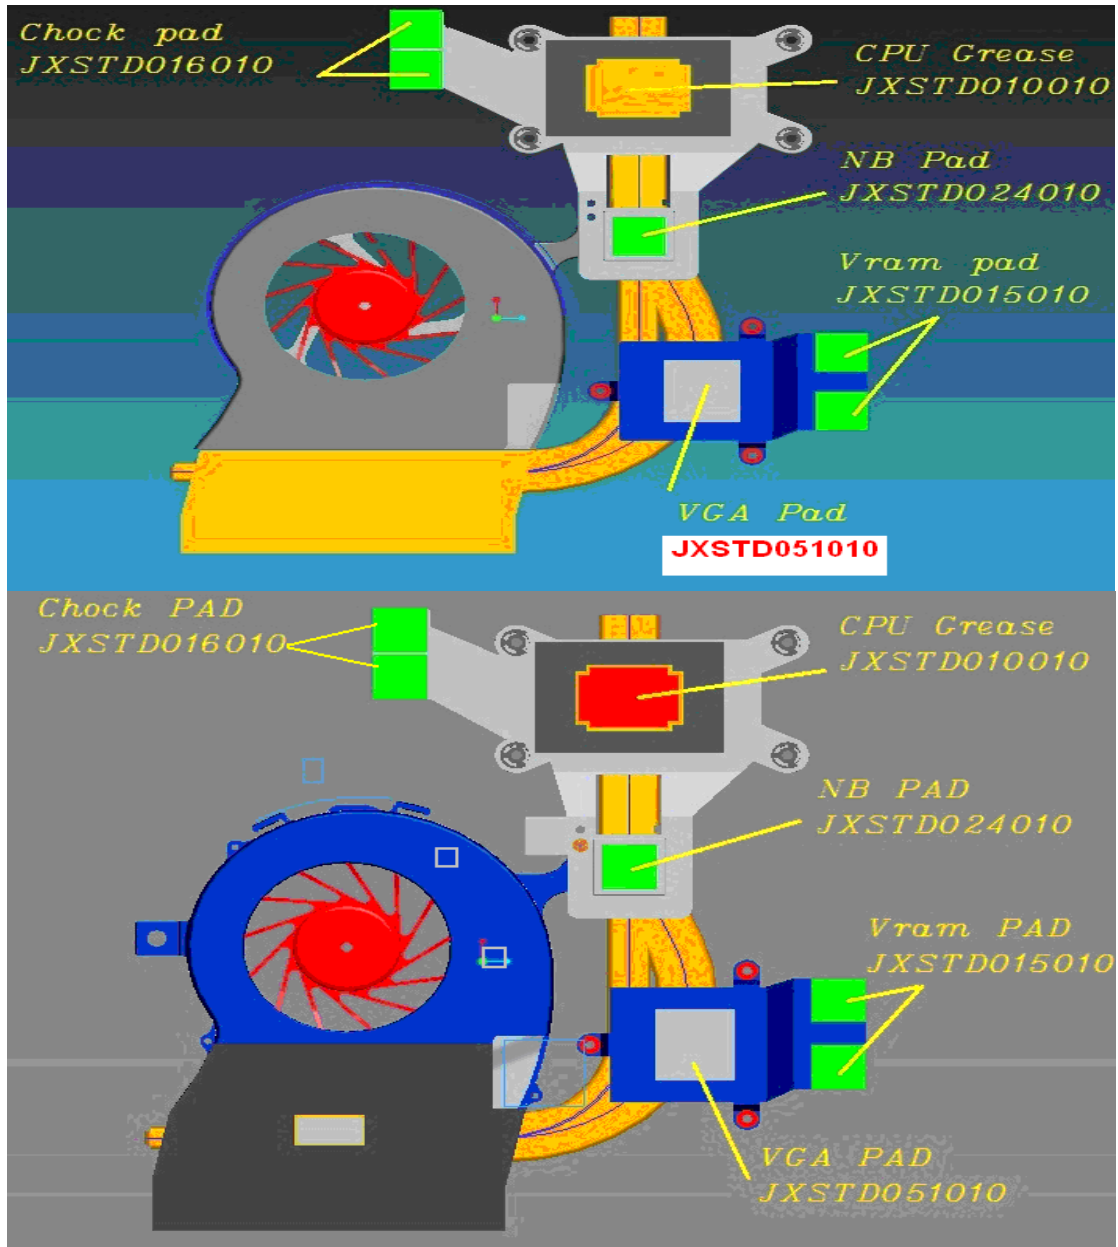

Figure 4-16-1 Intel & AMD thermal pad and grease on CPU, North Bridge, V-ram, chock and VGA
4.16 Application for Thermal pad and grease on CPU, North Bridge, V-ram, chock and VGA (See Figure 4-16-1)